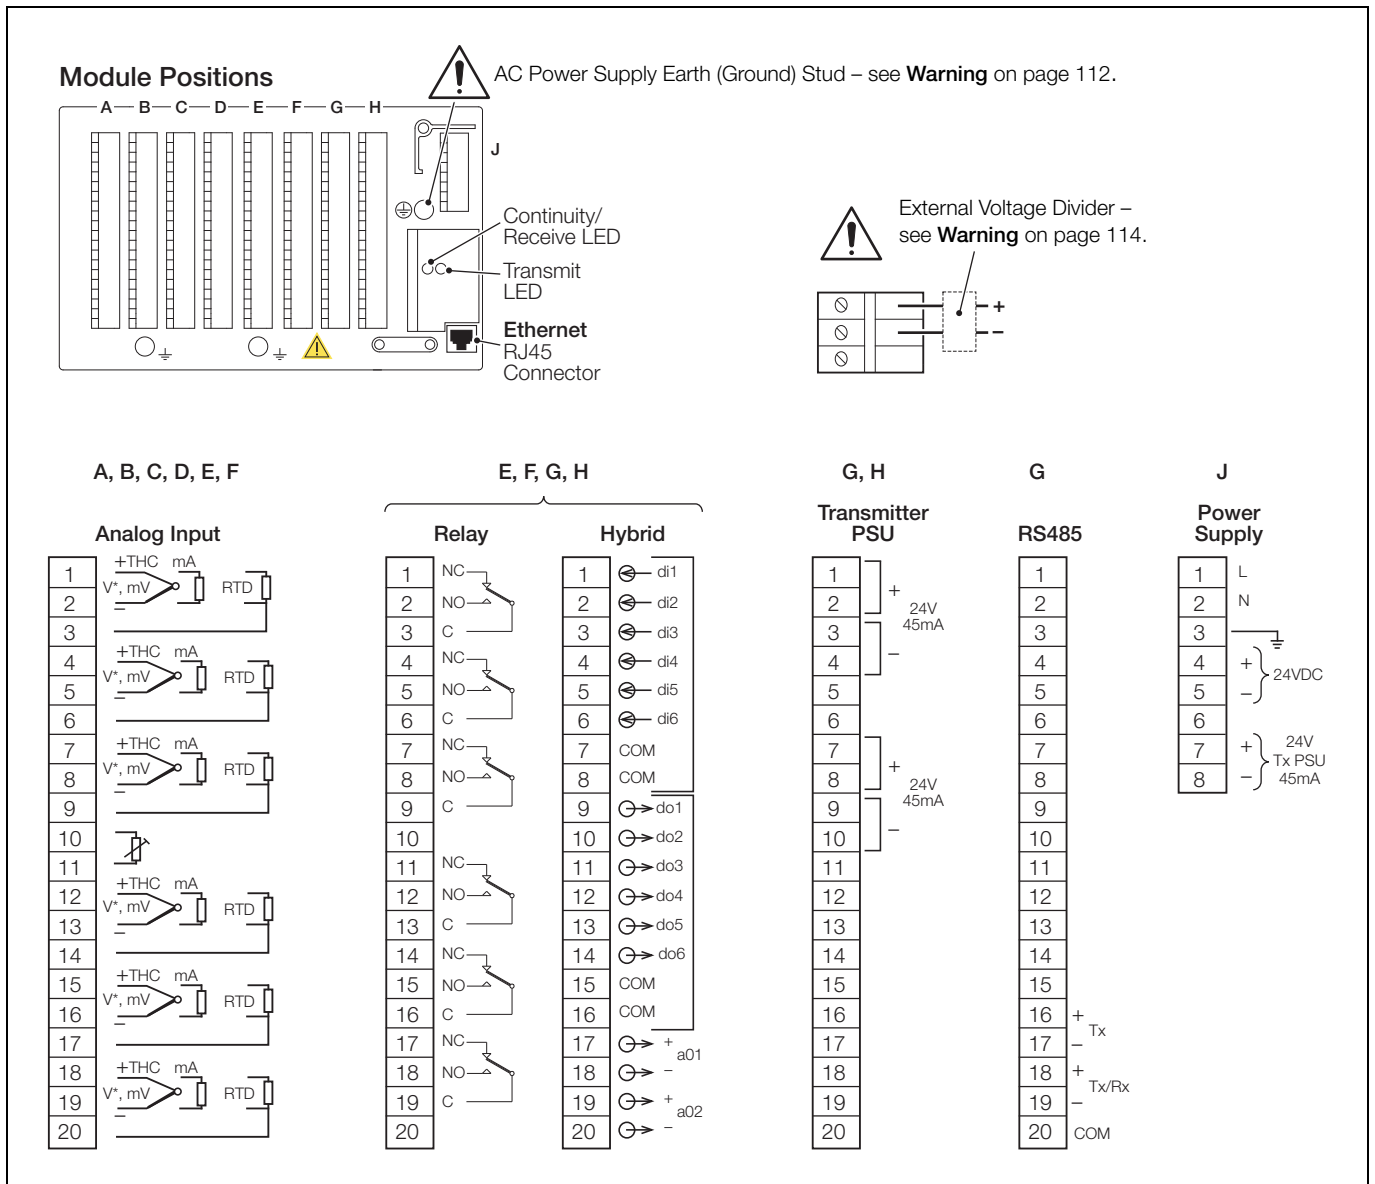

Fig. 7.5 Electrical Connections
- It is strongly recommended that screened cable is used for signal inputs and relay connections. Connect the screen to the earth (ground stud) – see Fig. 7.5, page 113.
Note. Refer also to Fig. 7.5 for terminal numbers.
To connect the instrument into an Ethernet network, use a single network cable to link it to the network hub. The connection is made using a standard RJ45 connector at the rear of the unit – see Fig. 7.5, page 113.